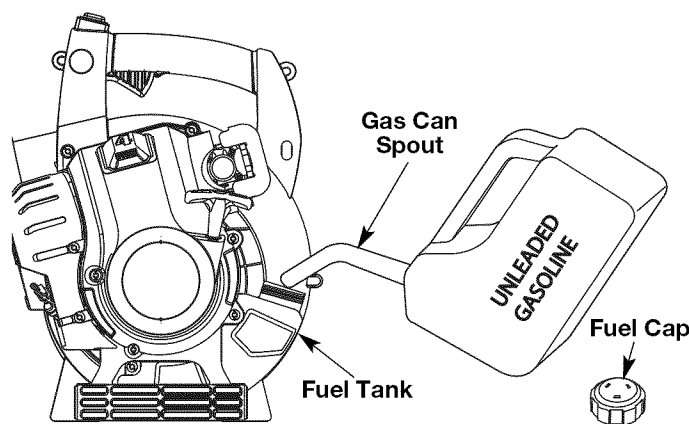

Fig. 10
1. Remove the fuel cap (Fig. 10).
2. Place the gas container's spout into the fill hole on the fuel tank (Fig. 10) and fill the tank.